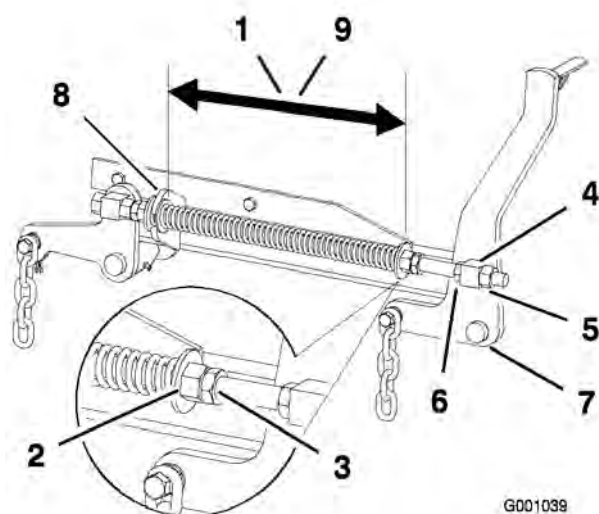

Figure 77
2. Check the distance between the two large washers, it needs to be 11-1/8 inches (28.2 cm) for 52 inch mower decks and 10-1/2 inches (26.7 cm) for 60 inch mower decks (Figure 77).
3. Adjust this distance, by loosening the spring jam nut and turning the nut in front of each spring (Figure 77). Turning the nut clockwise will shorten the spring; counter-clockwise will lengthen the spring.
4. Lock the nut into position by tightening the spring jam nut (Figure 77).